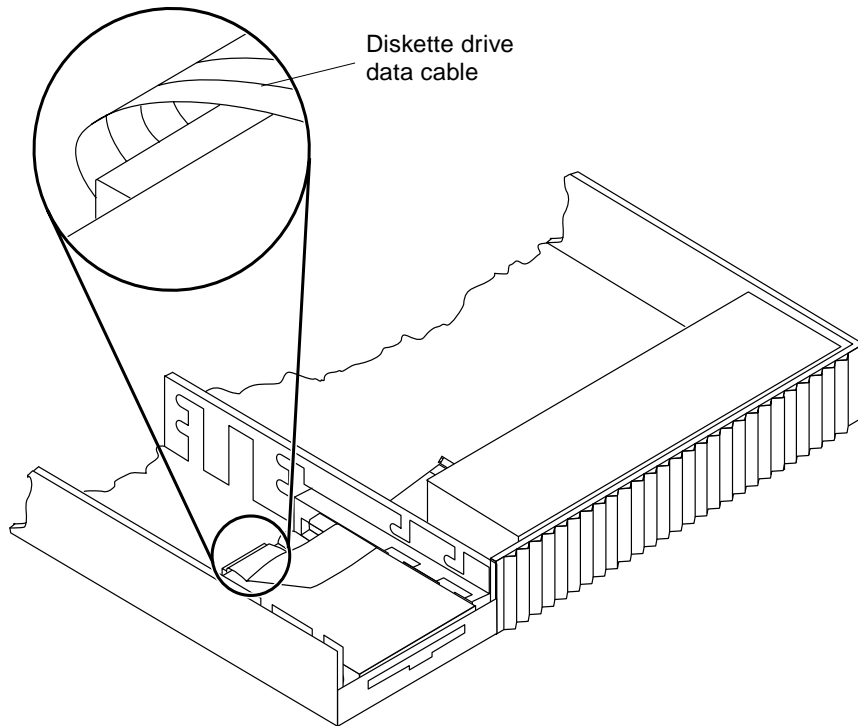

FIGURE 9-12 Diskette Drive Data Cable
8. Disconnect the diskette drive data cable (FIGURE 9-12).